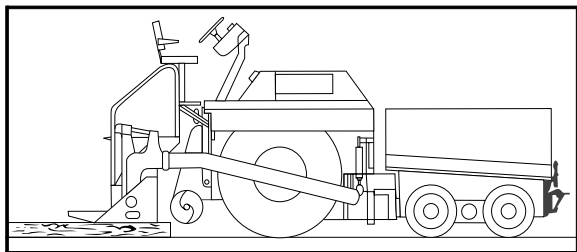

Figure 59. Set screed on blocks
- 2) Lower the screed onto blocks at each end and in the center of the screed (Figure 59) . Never set the screed on nails, rivets, or bolt which could damage the screed bottom.